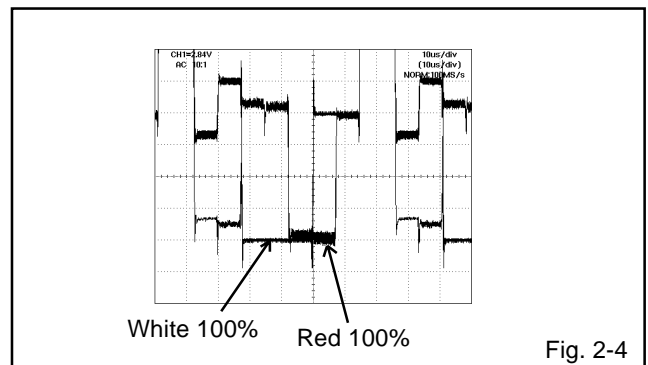

Fig. 2-4
16. Press the VOL. UP/DOWN button on the remote control until the red color level is adjusted to 100% ± 10% of the white level. **(Refer to Fig. 2-4)**